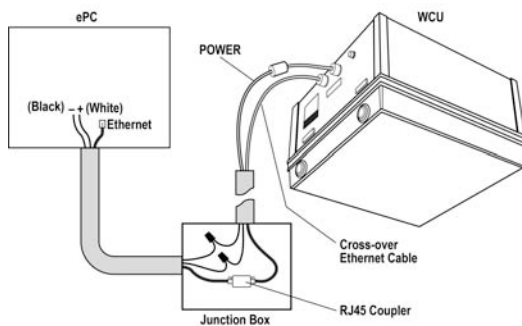

Figure 5-4 WCU Wiring
2. From the WCU, insert the CAT5e Ethernet cable and two (2) low-voltage power wires (see wiring conduit/wiring requirement section for proper AWG) into the 3/4" knockout of the junction box. Be sure to use a suitable cable gland.
3. Connect wires to the WCU as shown using the RJ45 Coupler as indicated in Figure 5-4